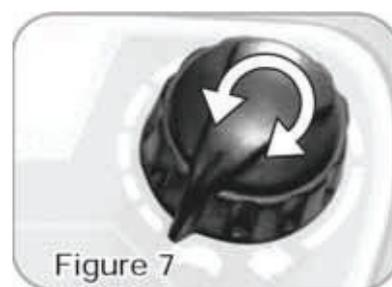

Figure 7
- » The dial knob allows you to adjust the speed of you scooter. (Figure 7)